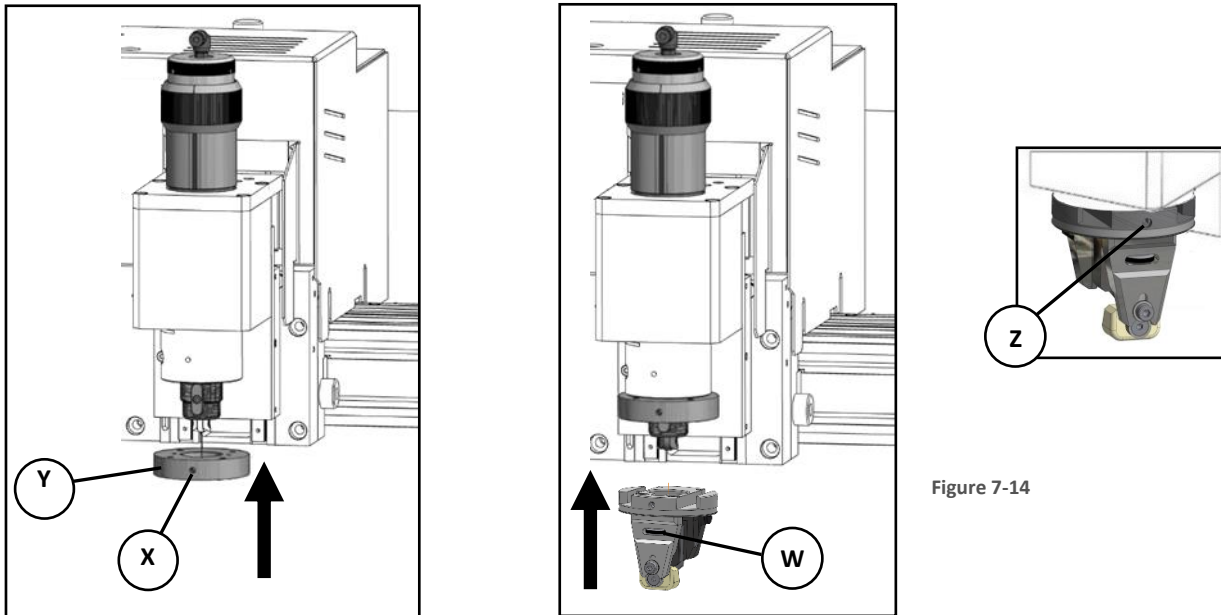

Figure 7-14
To mounting a head (W) on the VersaTool, insert it under magnet holder and when it adhere to the flange, tighten the screw (Z) (Figure 7-14).
- Loosen the screw (Z) (Figure 7-14).
- Hold the diapason (1) by its handle and push it into the slot located at the top part of the head. Holding the tool with the other hand, give it a slight knock (2) to release the head.
- This will detach the interchangeable head from the magnets rack, and it will stay attached to the diapason (3)